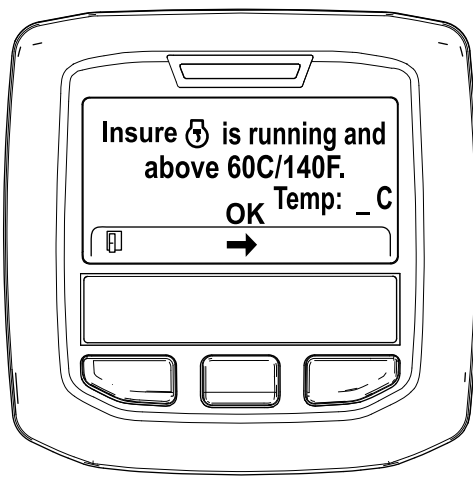

Figure 33
5. If the coolant temperature is below 60°C (140°F) the "Insure  is running and above 60C/140F" message displays. (Figure 33).